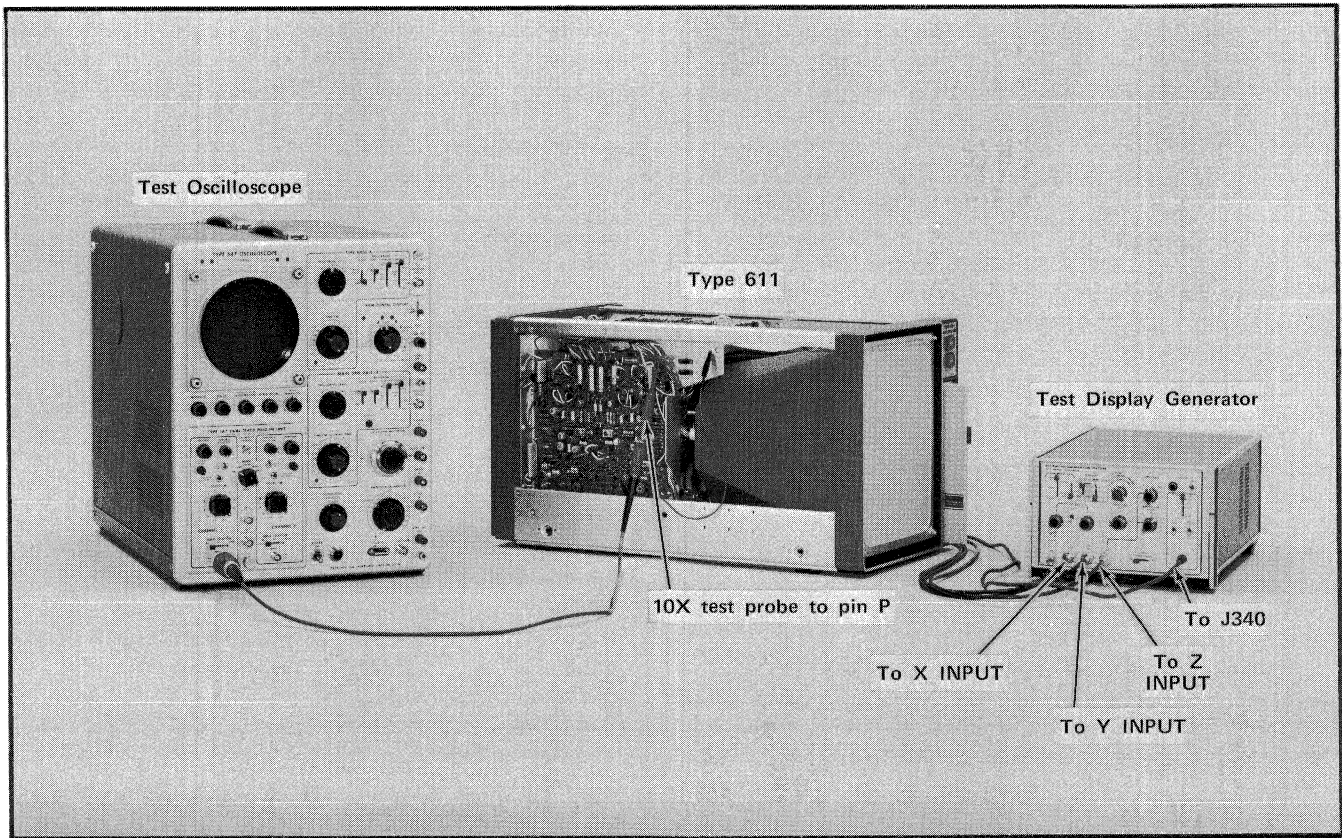

Fig. 5-24. Test setup for Deflection Amplifier Oscillations check.
- a. Test setup is shown in Fig. 5-24.